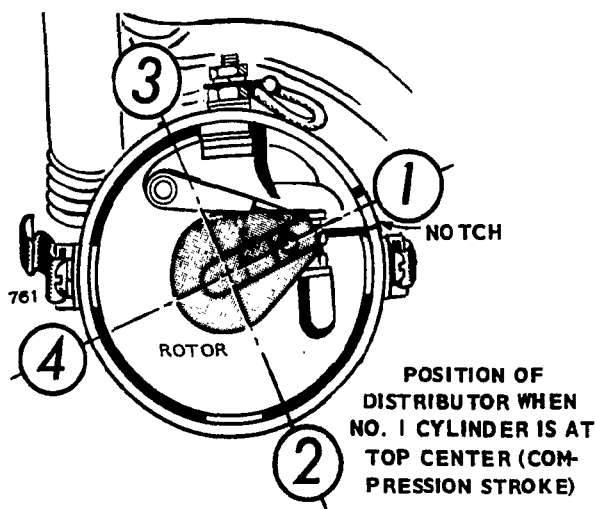

FIGURE 52. DISTRIBUTOR INSTALLATION POSITION
3. While holding distributor in the position shown in Figure 52 and the rotor 1/8 turn counterclockwise from position shown, seat the distributor. It may be necessary to turn rotor slightly to mesh distributor and camshaft gears. The rotor will move about 1/8 turn as gears mesh and should be in the position shown in Figure 52 when distributor is in place. If it is not, pull distributor upward until gears do not mesh and re-install.